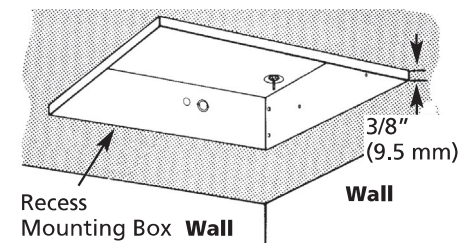

Figure 7
8. Place the recess mounting box in the ceiling opening and align the marks on the sides of the mounting box with the bottom of the finished ceiling (Figure 7). This will position the edge of the mounting box 3/8"